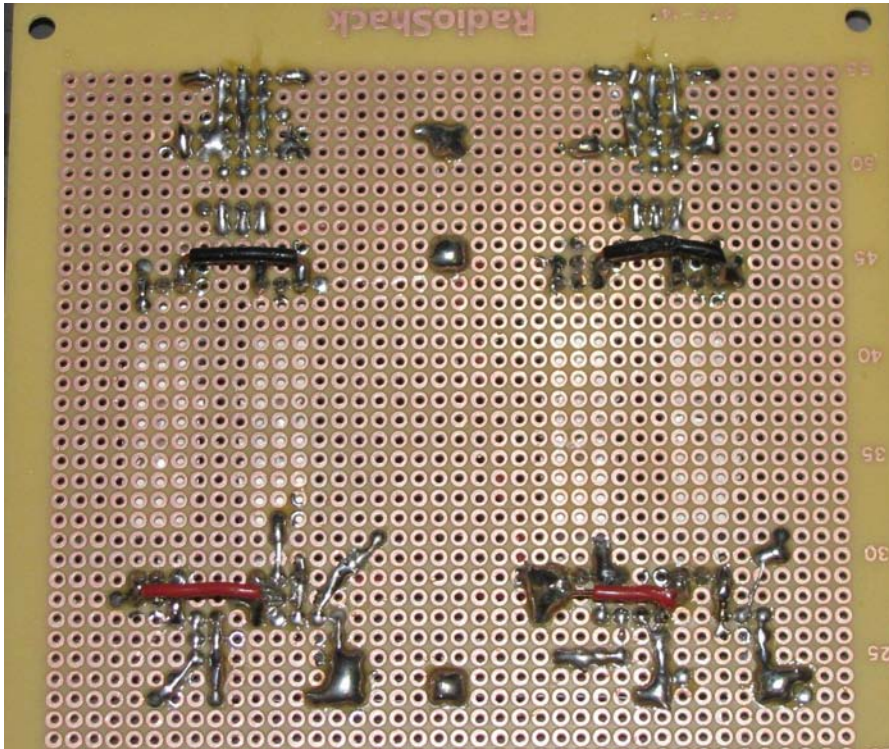

Figure 5-8. The underside of the perforated prototyping board
11. The top and bottom boxes in Figure 5-8, show where the pull-up and pull-down resistors go (all 10k ohm). The center boxes show the optional Gate resistors (150 ohm) for the N-channel power mosfets. These are not required and can be replaced with jumper wires. The bottom boxes show the TC4427 input pull-down resistors.
12. *Install headers and make connections:* I used (2) 5-pin female headers from Digikey for easy connections to the motor-controller.
After connecting the Header Pins, make common connections like the + Voltage and the Ground supply. The + Voltage wire should run from the P-channel mosfets Source pins down to the + Voltage supply of each TC4427 IC (pin 6). This supply wire should then connect to the positive battery power supply. I made some of these connections on the bottom of the board as shown in Figure 5-8. The Ground wire should connect all of the N-channel mosfets (power mosfet and signal mosfet) Source pins, as well as the Ground supply of each TC4427 IC (pin 3)—this wire can then also be connected to the negative battery power supply.